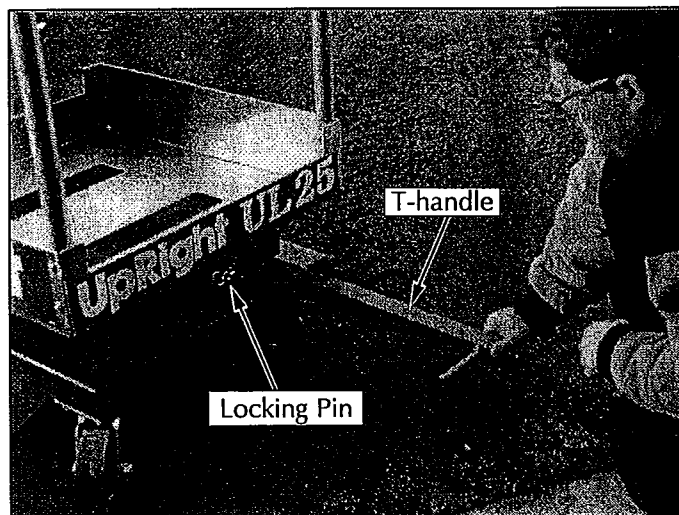

Figure 3-4: T-handle positioning
5. Release the locking pin and pull the T-handle out until the locking pin engages the hole in the end of the T-handle (fig. 3-4).